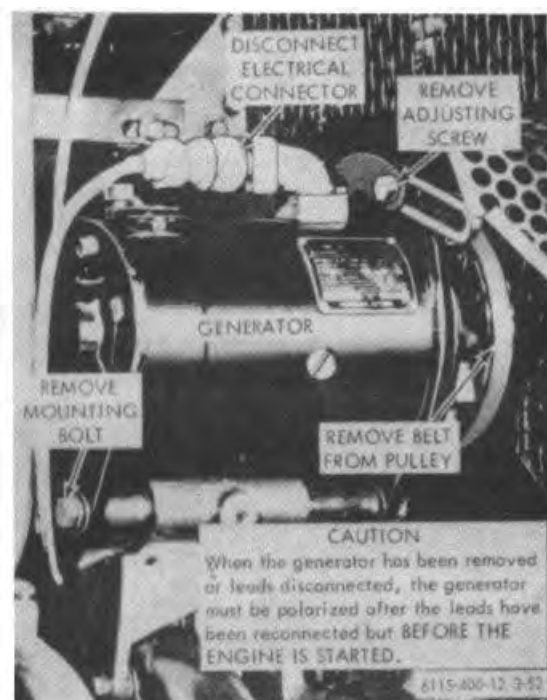

Figure 3-52. Generator, removal and installation.
b. Removal and Installation. Refer to figure 3-52 and remove generator.